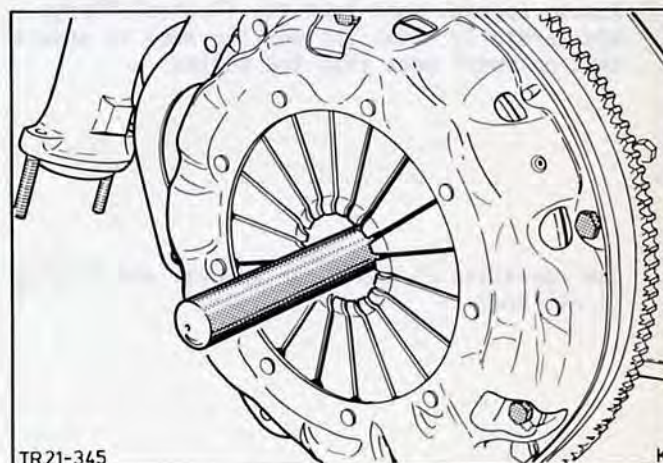

Fig.117. Centre clutch disc with special tool 21-044.
6. Fit clutch pressure plate with clutch disc, centering clutch disc with special tool 21-044, Fig.117. Tighten clutch pressure plate bolts to specified torque.